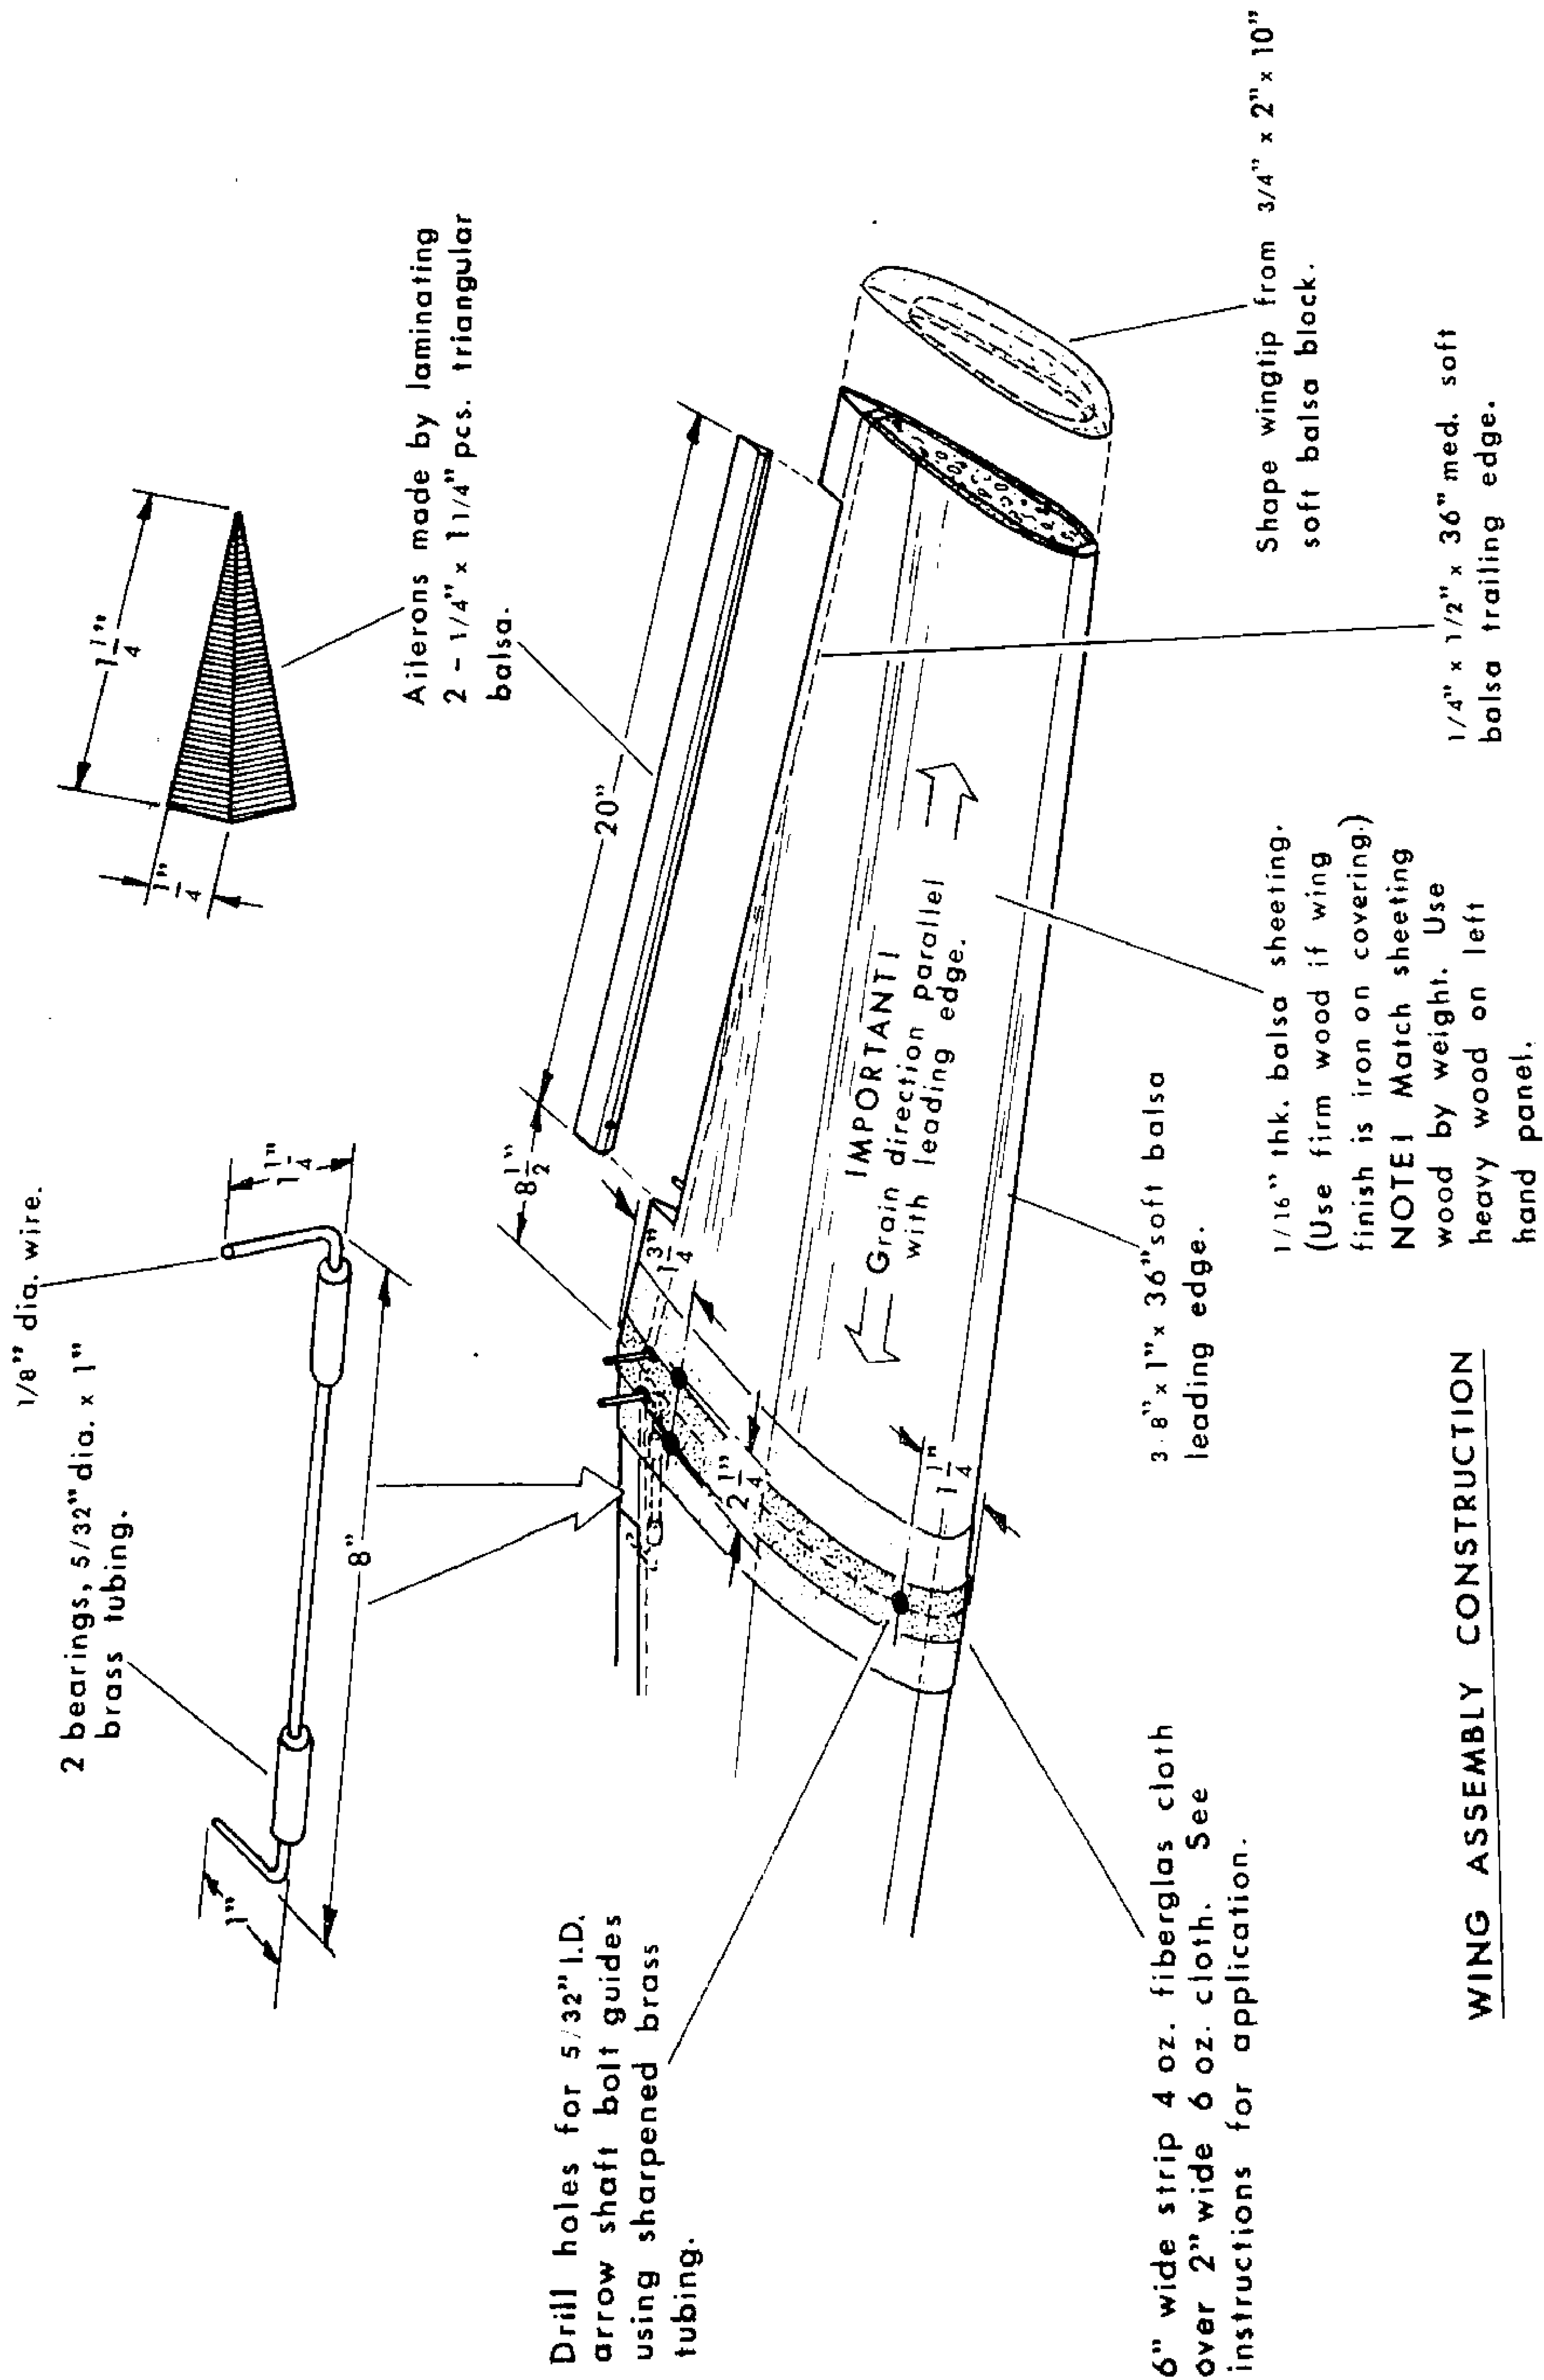

Figure 17
6. Lay the wing core in the foam saddle back onto the work surface. Glue sufficient pieces of 1/16" thick balsa with Hot Stuf to cover the wing. Use firm wood if the wing finish is to be an iron-on covering. Be sure and match sheeting wood by weight. Use the heavy wood on the left wing panel. Rough cut the sheeting to the outline of the wing. Coat one surface of the core and one surface of the wing sheeting with contact cement. Allow it to dry thoroughly before proceeding further. Note in figure 17 that the grain direction of the wing sheeting is important.
14. Refer to wing assembly construction drawing (figure 17) and install aileron actuating assemblies. Fabricate ailerons from two $1/4"$ x $1-1/4"$ x $20"$ triangular balsa laminated together. Refer to dimensions given in figure 17 and mark where aileron joins the wing. Cut slots for aileron hinges exactly on centerline of trailing edge. Cut matching slots in ailerons and trial fit, but DO NOT glue in place.